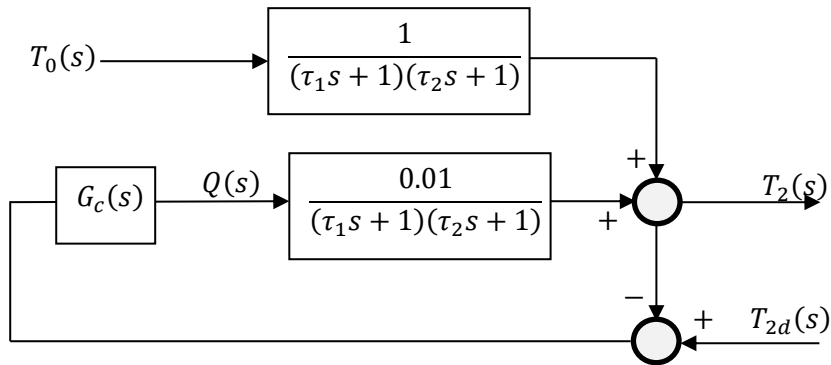

Figure 7
6. A system of two tanks similar to the second laboratory experiment (yet different) is shown in figure 7.